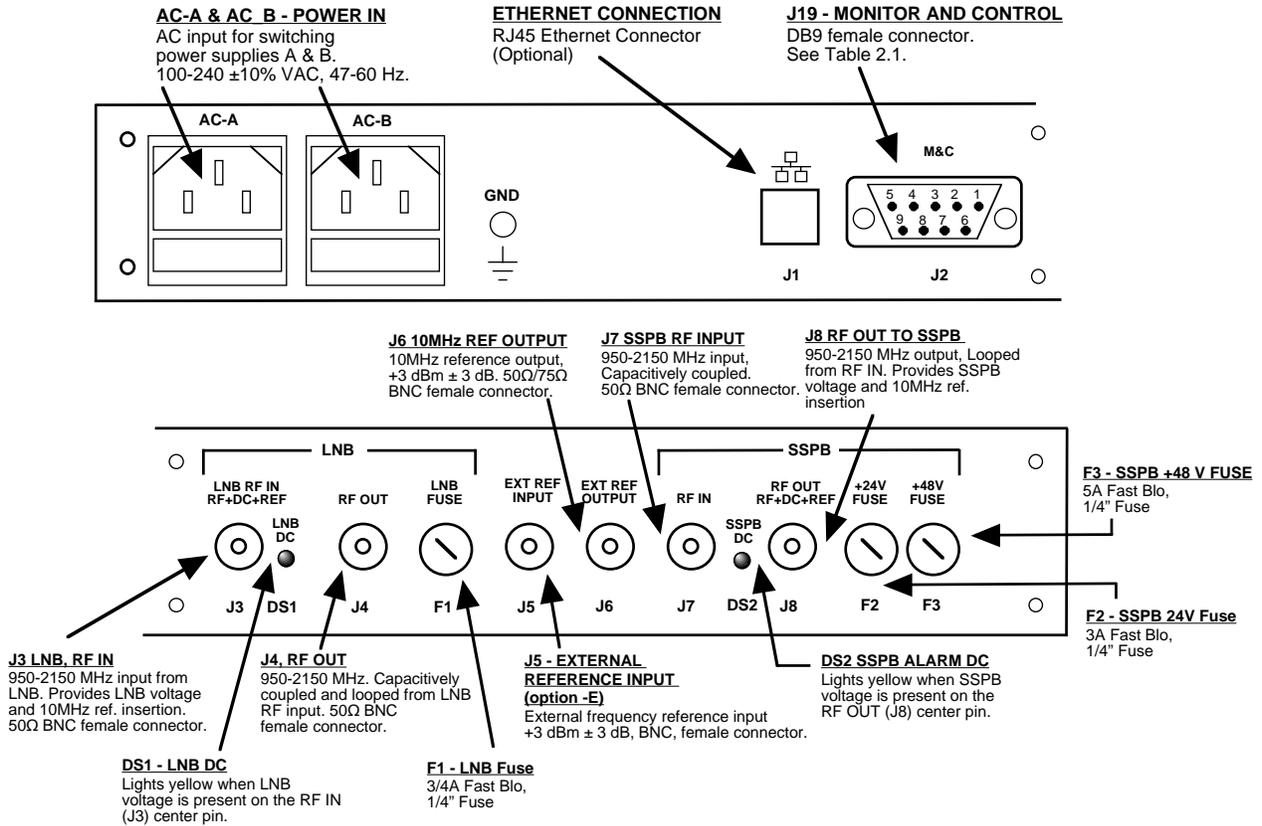
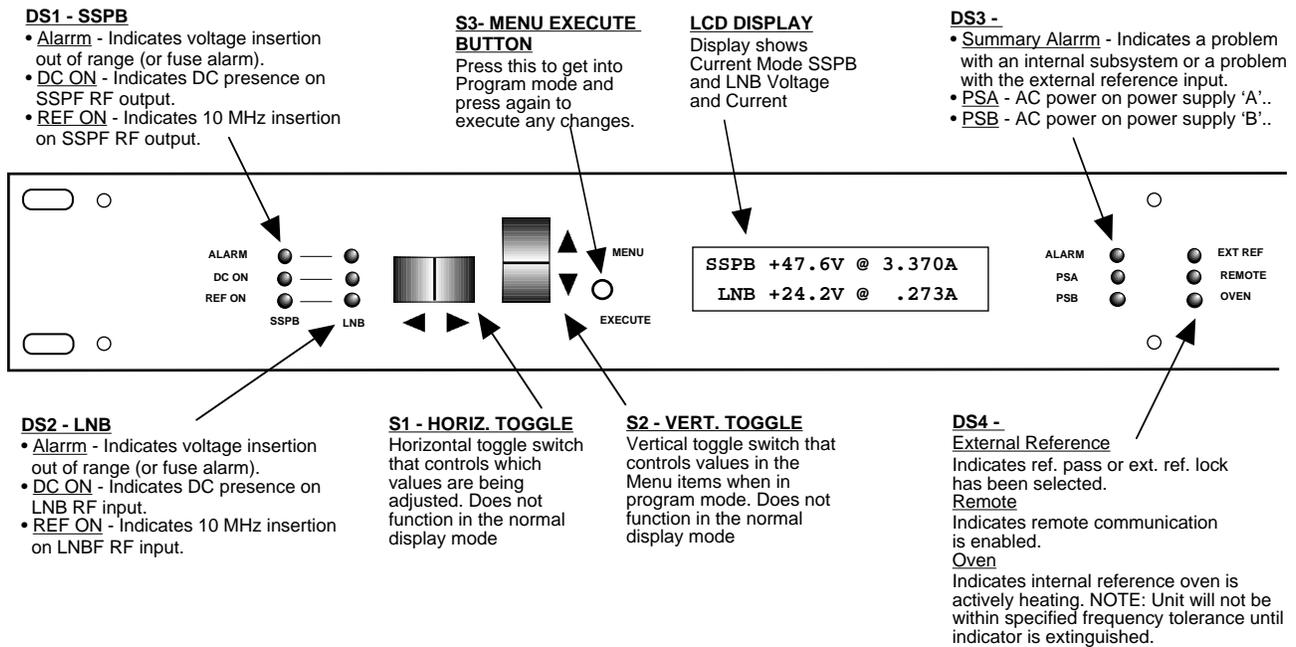

FIGURE 2.1 2099-2448 Rear Panel Outputs
FIGURE 2.2 2099-2448 Front Panel Controls and Indicators
2.2 Rear Panel Output Signals - Figure 2.1 shows the input and output connectors on the rear panel.
2. Connect 100-240 \pm 10% VAC, 47-63 Hz to AC1 and AC2 connectors (Figure 2.1).
3. Be sure DS1 and DS2 LEDs (green, POWER) are on (Figure 2.2).
6. (option -E only) Choose one of the five (5) modes (Internal, Ext Pass, Ext Pass Auto, Ext Lock, or Ext Lock Auto) in which to operate the unit.
8. Connect J1 thru J4 (REFERENCE OUTPUTS) to desired equipment (Figure 2.1).
9. Monitor reference output signal with J14 (MONITOR) (Figure 2.2).
Alarm indications appear on the LED (see Figure 2.2).